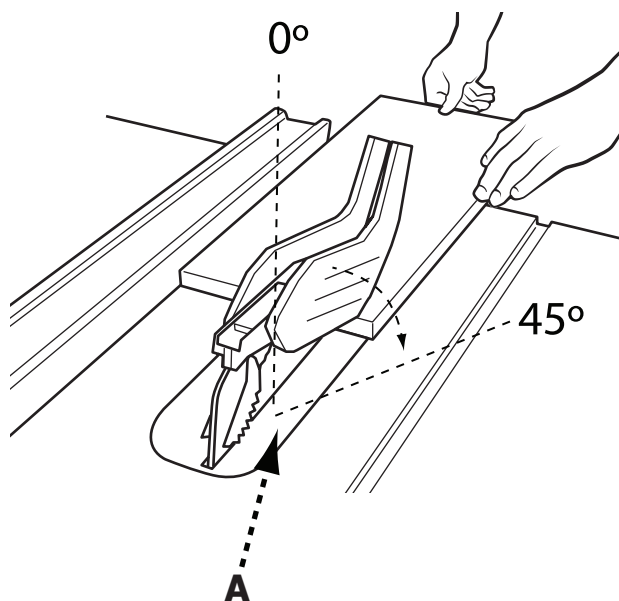

FIGURE 24
Bevel ripping is the same as ripping except the bevel angle (A) is set to an angle other than 0° . When making a bevel rip cut, place the fence on the right side of the blade so that the blade is tilted away from the fence and hands.(FIGURE 24).